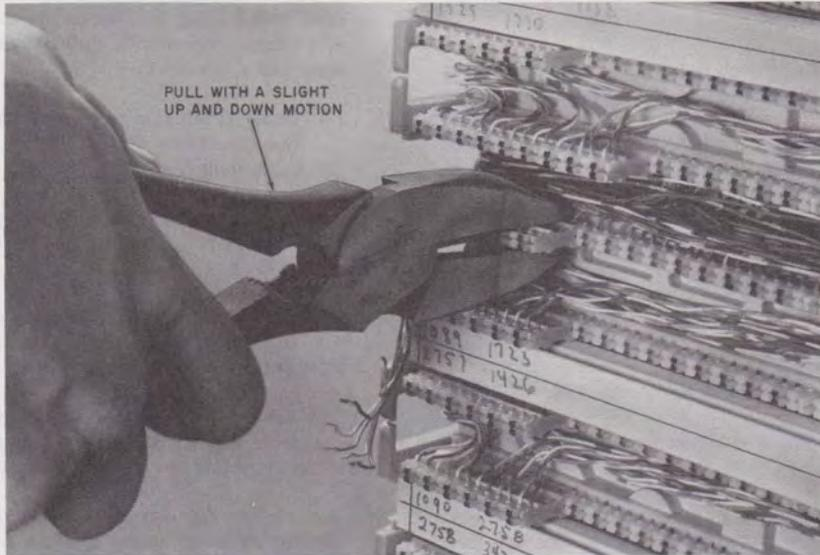

Fig. 25—Removing Connecting Block
- (c) Using a pair of combination or side-cutting pliers, grip the 88-type connecting block firmly in the center as shown in Fig. 25, then gently pull with a slight up-and-down motion to release the connecting block from index strip.